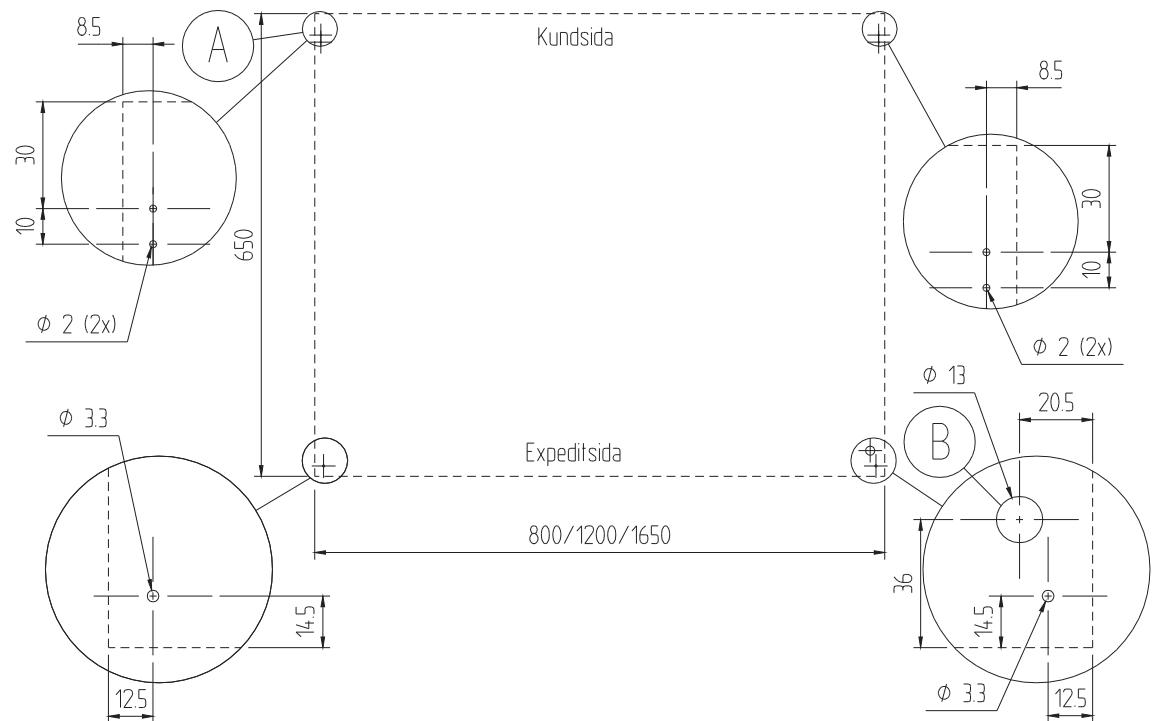

Figure 3.
- Drill two 2mm diameter holes (fig.3 posA) in the worktop.
- Place the counter on the worktop and draw the connection cables for the lighting through hole B (fig3) to the transformer in the refrigerated counter.
- Place the counter on the worktop and draw the connection cables for the light through hole B (fig.3), to the transformer in the unit underneath.